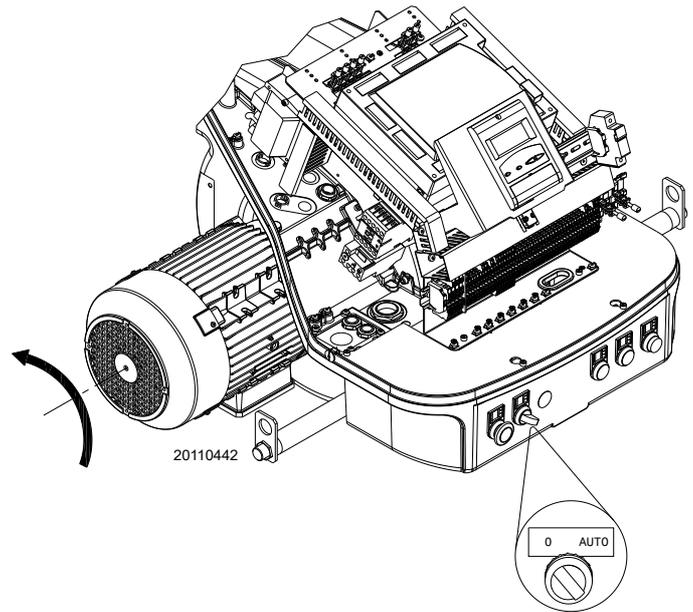

Fig. 29
Close the thermostats/pressure switches and turn the switch to Fig. 29 "AUTO".
If voltage is present, then **immediately** stop the burner and check the electrical wiring. When the burner starts, check the direction of the rotation of the motor, as shown in Fig. 29.
- place the switch of Fig. 29 in position "0" and wait for the control box to carry out the switch-off phase;
- removing the cover and working on the switch "0-AUTO" of Fig. 29 at page 30;